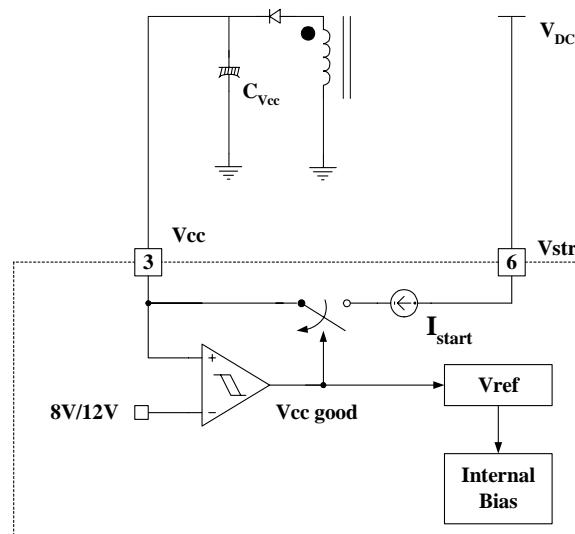

Figure 4. Internal startup circuit
1. Startup : In previous generations of Fairchild Power Switches (FPSTM) the Vcc pin had an external start-up resistor to the DC input voltage line. In this generation the startup resistor is replaced by an internal high voltage current source. At startup, an internal high voltage current source supplies the internal bias and charges the external capacitor (C_{Vcc}) that is connected to the Vcc pin as illustrated in figure 4. When Vcc reaches 12V, the FPSTM begins switching and the internal high voltage current source is disabled. Then, the FPSTM continues its normal switching operation and the power is supplied from the auxiliary transformer winding unless Vcc goes below the stop voltage of 8V.